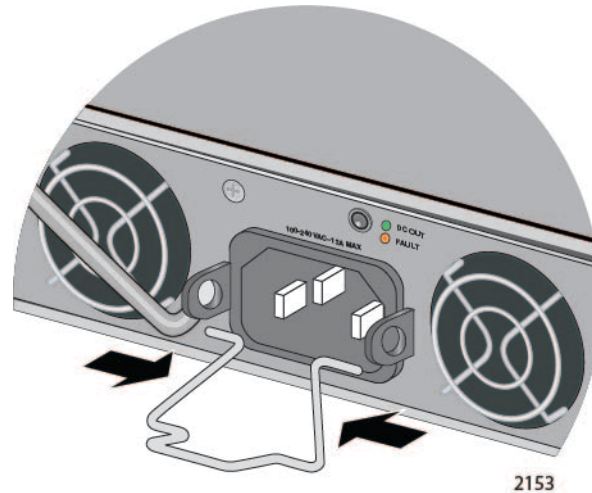

Figure 38. Installing the Power Cord Retaining Clip
7. If you installed the AT-PWR150, AT-PWR250 or AT-PWR800 Power Supply, install the power cord retaining clip on the AC plug. Press the sides of the clip inward and insert the two ends into the holes on the AC socket. Refer to Figure 38.